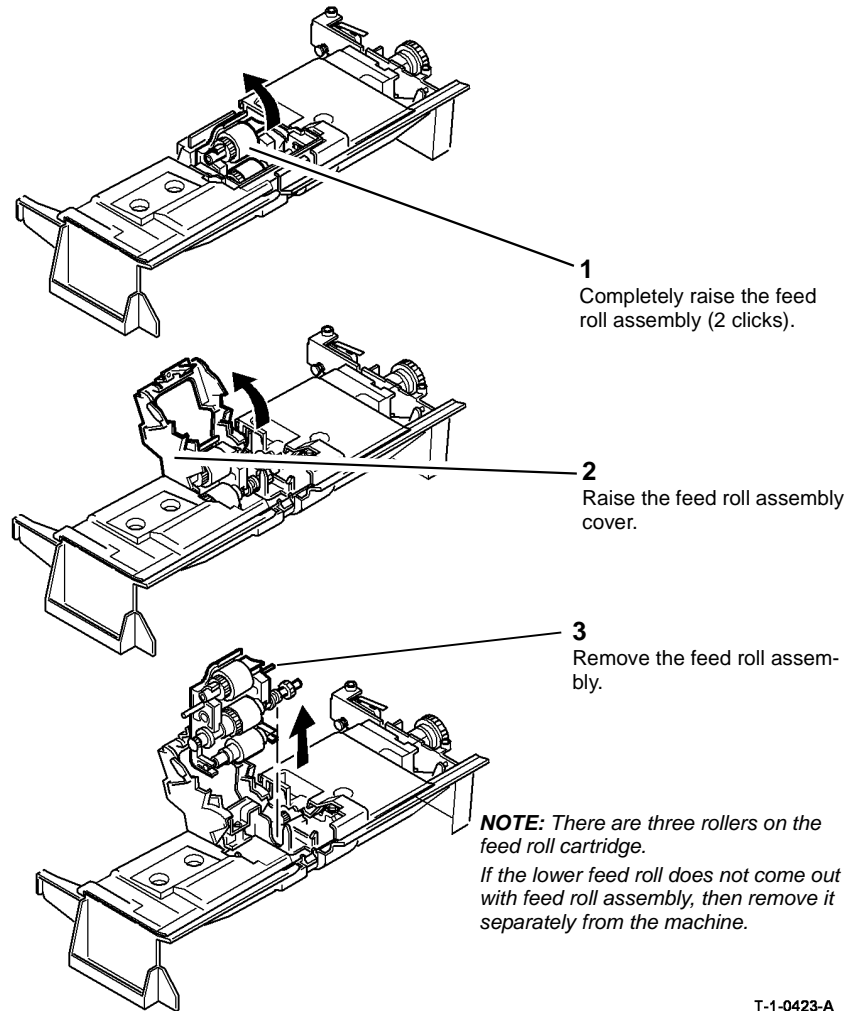

Figure 1 Feed roll assembly
2. Remove the DADH feed roll assembly, Figure 1.